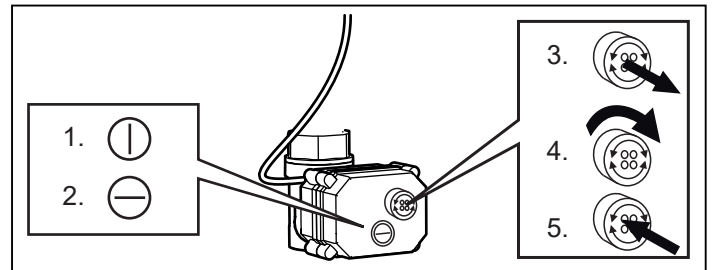

Figure 18: 1. Vertical line indicates open valve
4. Pull out the knob on the ball valve and turn it until the indicator shows the open position. See Fig. 18.